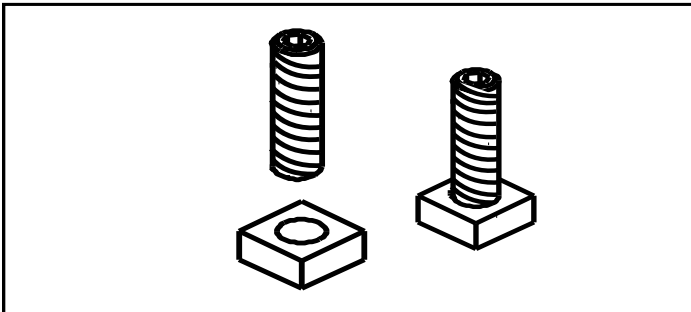

Figure 23.1
1. Thread Allen bolts through nuts until flush (**Figure 23.1**). The Allen bolts and nuts are included in the component pack inside the appliance firebox.